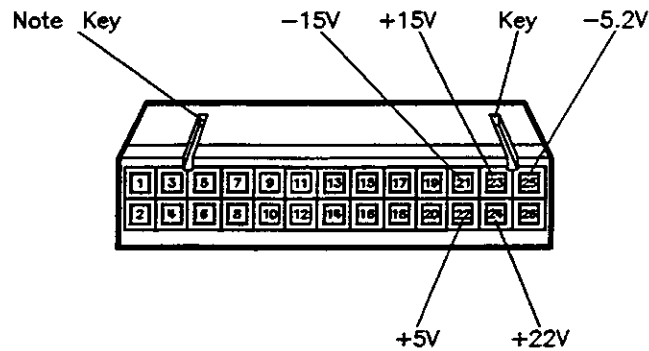

Figure 10–5. Voltages at Pins of W12P1
- If any voltage is incorrect, disconnect cable W12 at A51J1 and measure the same voltage at the end of the cable (see the top row of Table 10–5 and Figure 10–5).